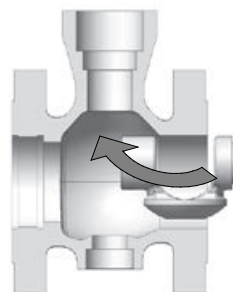

Figure 5b: Plug installation
- 13.15 Insert the plug in the body as shown in Figure 5b.
- ! NOTE:** The end post bearing (item 84) is pressed into the plug.